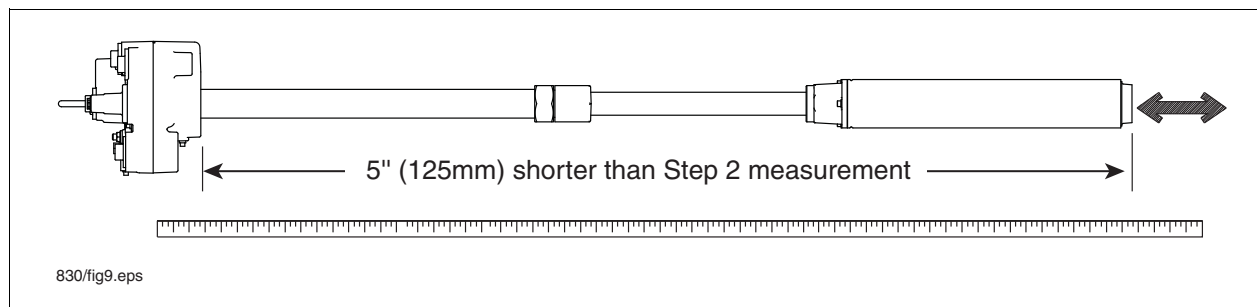

Figure 11. Adjusting Pump Length
5. Referencing Figure 11, pull the UMP end until the distance between the bottom of the manifold and the bottom of the UMP is 5 inches (125 mm) (15 inches [381 mm] for floating suction) shorter than the distance measured in Step 2.